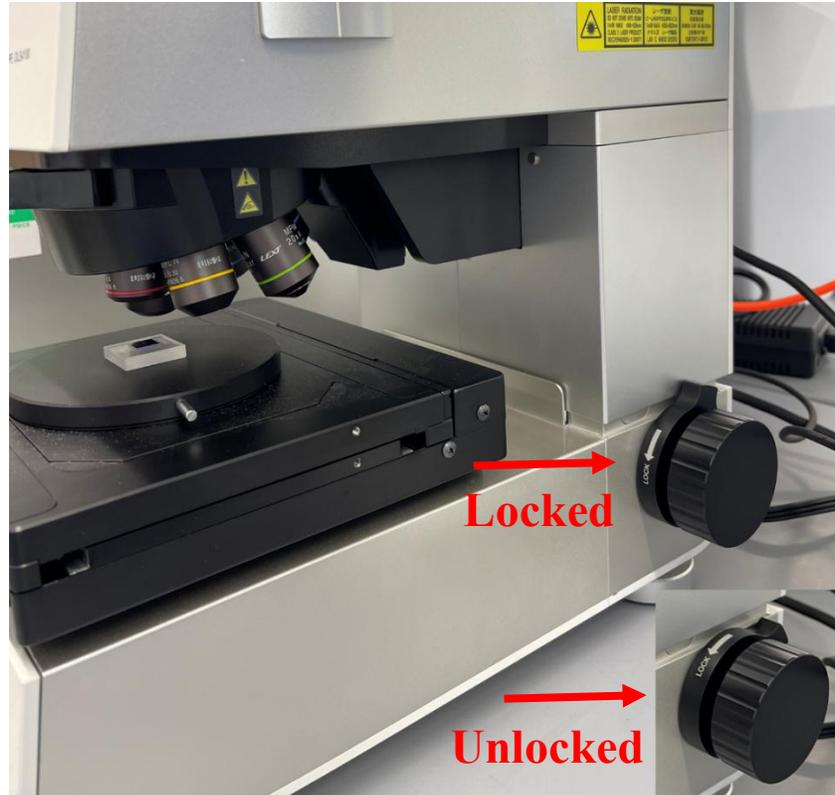

Figure 8. Locking Focus
7. After placing the sample, use the focusing knob to make a coarse focus adjustment. Once the sample is in focus, lock the knob by turning the locking mechanism counterclockwise, as shown in Figure 8.